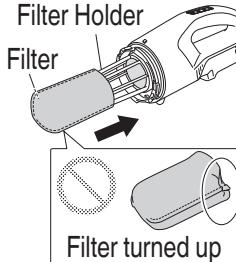

Fig. 9
(4) **Install the filter (Fig. 9)**